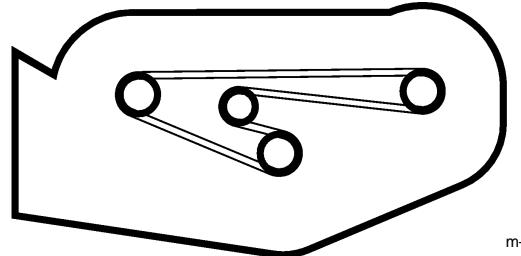

Figure 28
1. Install the new belt around the blade pulleys and the idler pulley (Fig. 28).